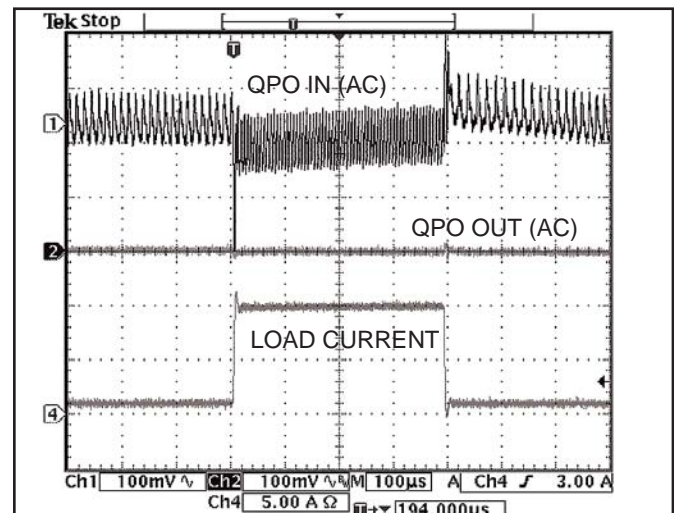
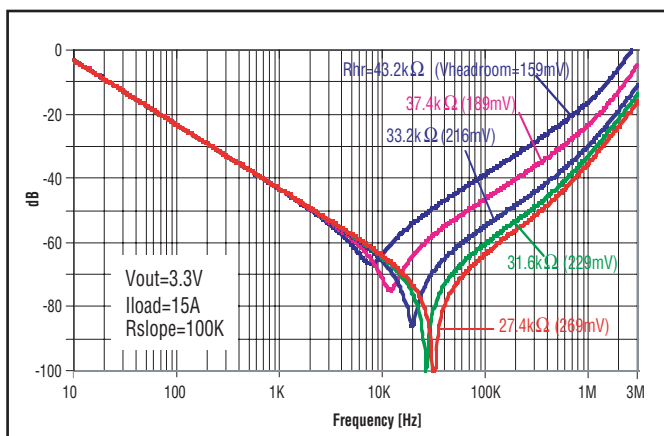

Figure 2 – Typical performance with a 3.3 Volt converter, showing 1 to 10 A load step.
Figure 7 – Attenuation curves without slope adjust.
The QPO-2 output ripple attenuator SiP uses active filtering to reduce supply output ripple and noise (PARD) by over 30dB from 1kHz to 500kHz. The QPO-2 is biased through the VAUX input and filters an input voltage range of 0.3VDC to 5.5VDC while supporting load currents as high as 20A. The VAUX input range is 7V to 12V with a minimum required difference between VAUX and QPO OUT of 7V. Output regulation is maintained by using either the remote sense or the trim adjustment of the power supply. The product can be used in an open loop configuration when ripple and noise reduction are the main objective and load regulation is not as critical. The QPO-2 architecture improves transient response and ensures quiet point-of-load regulation when used with most switching power supplies. The performance waveform in figure 2 is an example of the ripple reduction and transient load improvement the QPO-2 can provide using a 3.3V brick style converter.
The QPO-2's closed loop architecture greatly improves load transient response of the converter while ensuring steady-state precise point of load voltage regulation. The headroom setting of the filter dramatically reduces the capacitance needed at the converter output to provide the equivalent transient performance and ripple reduction. Figure 2 demonstrates how the product can be an ideal solution for noise sensitive applications providing ripple and noise reduction and improved output regulation with high current transient load demands.
Figure 7 shows the relationship of the headroom voltage versus attenuation of the QPO-2 for a 3.3 volt output with a 15 amp load. This relationship is relatively constant over the full output voltage rating of the product so this graph can be used for the 0.3V to 5.5V range when selecting the headroom voltage. The value of headroom resistor will be dependent on desired output and headroom voltages. The selection of the final headroom voltage should be based on the maximum expected ripple, desired attenuation, based on the curves in figure 7, and the transient response time of the converter. Formulas for SC current setting resistor, RSC and the RCP clamp setting resistor, are provided in their respective sections. The headroom range indicated in figure 7 shows that increasing the
To ensure sufficient headroom during transient load changes, a greater headroom voltage than what would normally be set based on maximum ripple should be considered. To provide margin to cover the instantaneous drop in the converter output and the line drops, additional headroom will be needed. In the example shown in figure 2 an additional 75mV was included with the headroom voltage value selected from the graph in figure 7 to cover the instantaneous drop in the supply output during the 10 Amp step as explained below.
In Figure 2, a maximum load of 10 Amps allowed for the RHR value to be calculated to provide 375mV of headroom to avoid exceeding 4 Watts. In this example, based on the attenuation graph in Figure 7, 300mV of headroom is the point of diminishing returns so the maximum attenuation would be achieved at the fundamental ripple frequency. To stay within the dynamic range required by the active loop during a transient, a total of 375mV was used in the formula to determine the RHR resistor value. The peak detector will dynamically add 30mV (derived from the 60mV peak to peak input ripple) to the static headroom setting providing the total dynamic headroom of typically 405mV with the detector enabled.
- o No slope adjust, no peak detect, fixed headroom, attenuation vs headroom graph in figure 7 apply